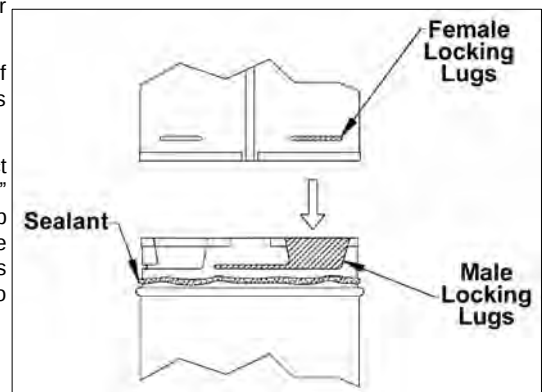

Figure 34: Twist-Lock Connection.
- (1) Twist-lock procedure: Four (4) indentations, located on the female ends of pipes and fittings, are designed to slide straight onto the male ends of adjacent pipes and fittings, by orienting the four pipe indentations so they match and slide into the four (4) entry slots on the male ends. Push the pipe sections completely together, then twist-lock one section clockwise approximately one-quarter turn, until the two (2) sections are fully locked.
- (2) Horizontal runs of vent must be supported every 3 feet (915mm). Wall Straps are available for this purpose.
- (3) Sealant is only necessary on the outer tube of the GS Pipe. Run a **1.25 inch (3mm)** wide bead of sealant around the male end of the outer sleeve, as shown in Figure 34, and twist-lock the pipes or fittings together.